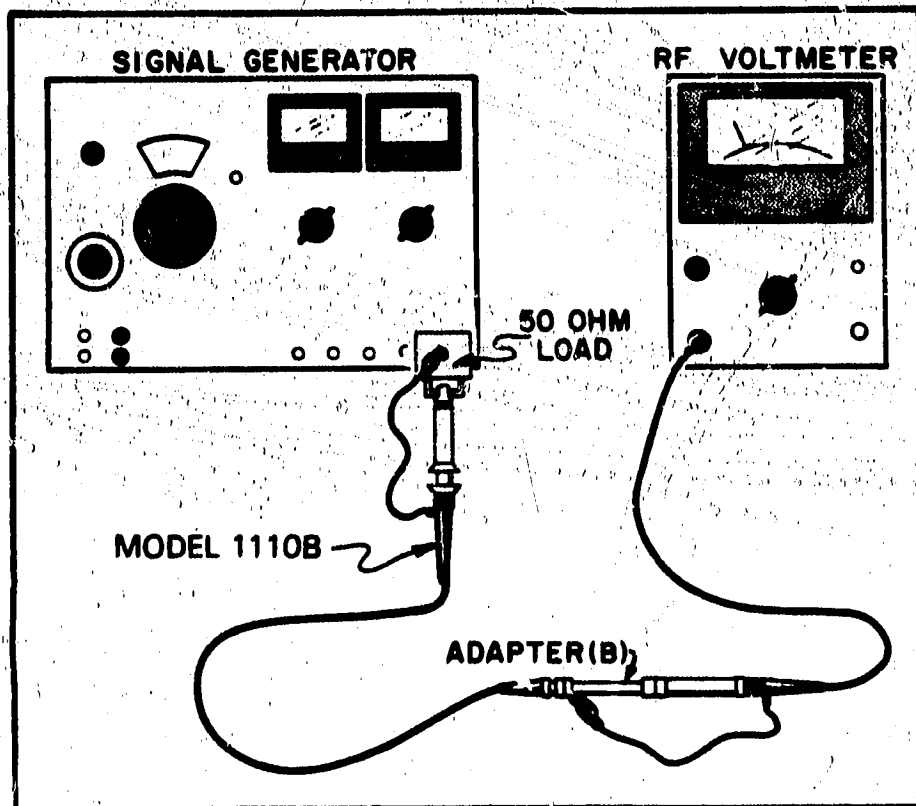

Figure 5. High Frequency Limit Test Setup
30. High Frequency Limit. Set up test equipment for this measurement as indicated in Figure 5.